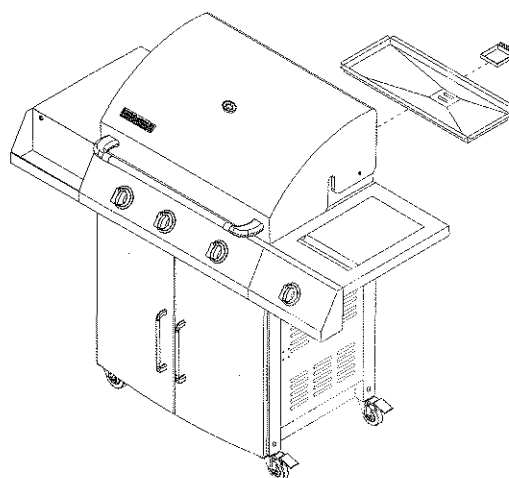

Figure 19
1. Slide grease draining tray onto tray supporting edge under fire bowl. (Fig.19)
2. Slide grease receptacle onto receptacle supporting edge under grease draining tray. (Fig.19)